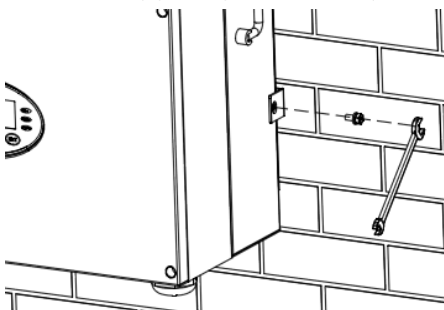

Figure4.13 Installation of M6X16 bolts
- (6) Ensure the inverter is installed properly and tighten the M6X16 bolts into the screw holes on the left and right side of inverter(tightening torque is $4N\cdot m$). As shown in Figure 4.13.